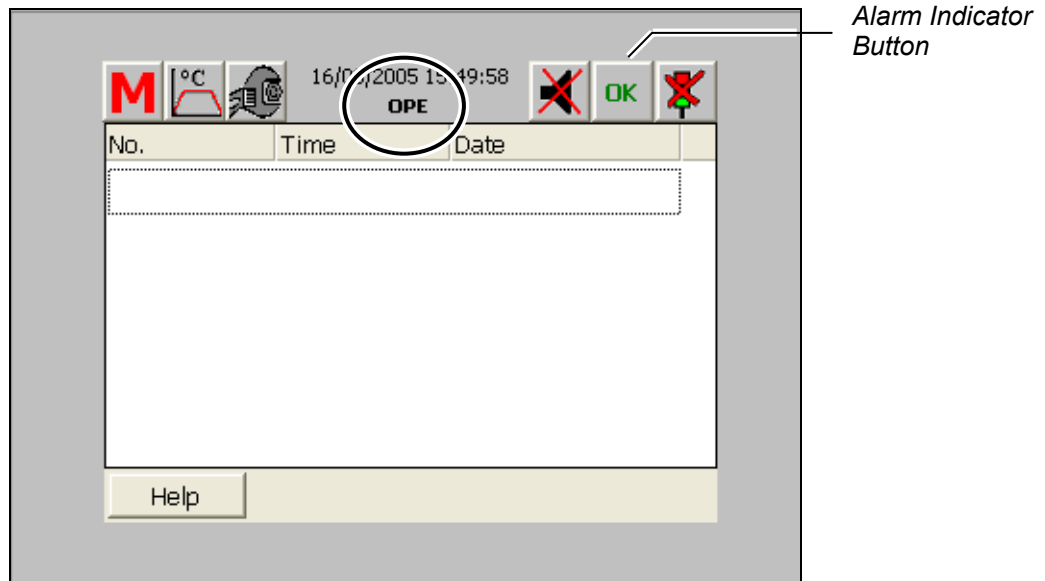

Figure 6-53 Alarm Indicator
5. When the alarms are reset, the alarm button stops flashing and "OK" appears at the top right corner of the screen (Figure 6-53).